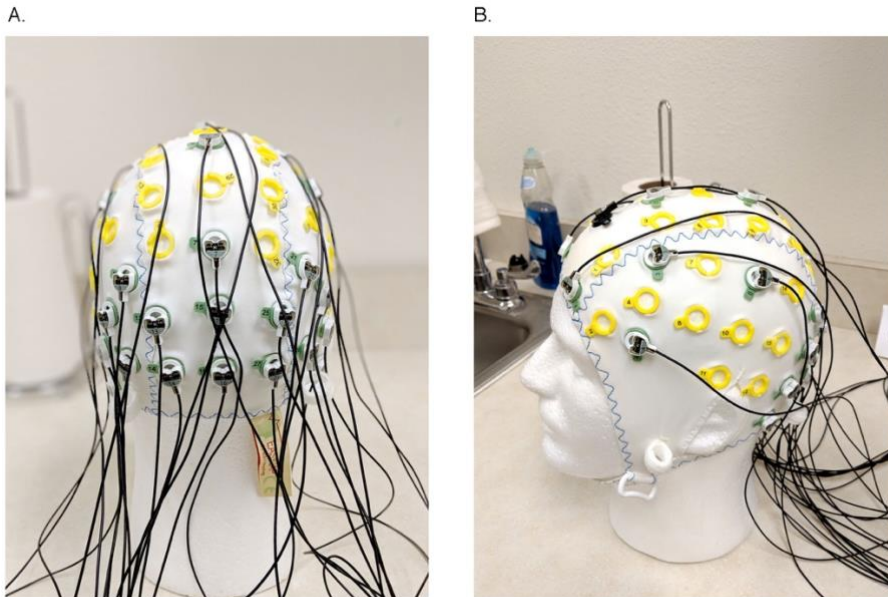
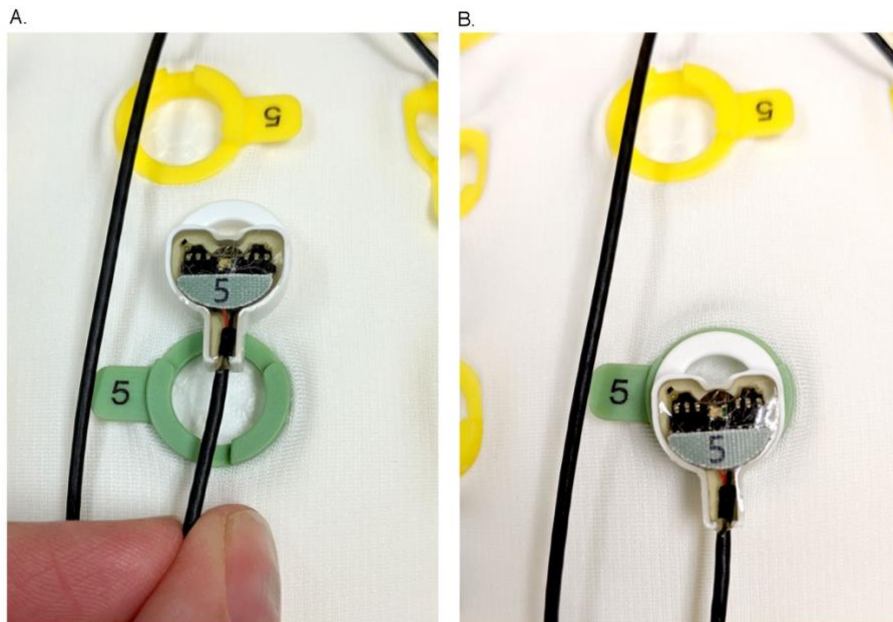

Figure 3. Prepped electrode cap with wires properly pointing toward the back of the head, as viewed from the back (panel A) and from the side (panel B).
Figure 4. Illustration of the direction the electrodes should be slid into the electrode holders.
8. Carefully slide the electrodes (except for the external electrodes) into the cap with the wires pointing towards the back of the cap (see Figure 3). This reduces tension on the wires during the recording and minimizes tangling. The bottom of the electrodes (wire end) should be slid into the top of the holder in a downward motion, not pushed in with an upwards motion from the bottom of the holder (see Figure 4). Be sure to push the electrodes all the way into the holders; they should make an audible 'snap' noise (although this snapping noise becomes less noticeable over time).